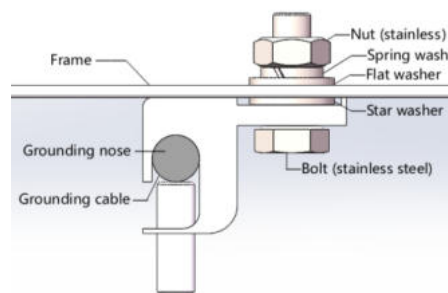

Figure 22 Schematic diagram for installation of connecting lug fastened by bolt
- The common arrangement of modules includes wiring in single vertical row, double vertical rows, single horizontal row, and double horizontal rows, as shown in Figure 22.